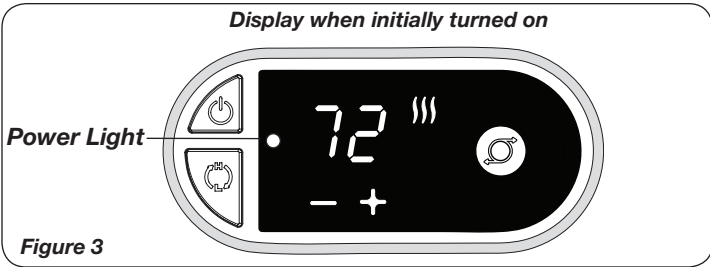

Figure 3
- Upon turning the Heater on, the unit will be in HIGH heat (III) (1500 Watts) and will display the current room temperature. (Figure 3)
- Press the (⏻) button for LOW heat (II).